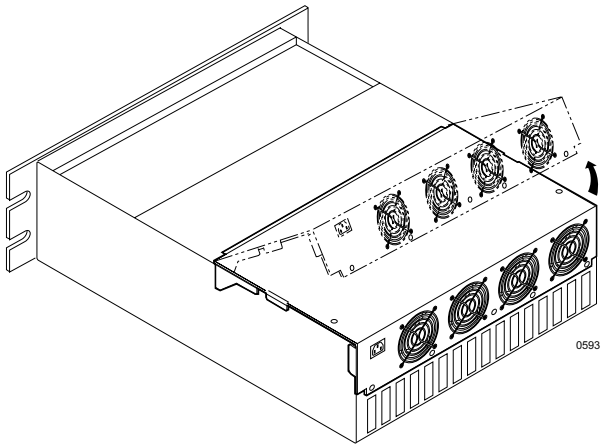

Figure B-10: Removing the Power Supply Module
6. Lift the rear of the power supply module and remove (Figure B-10).
7. Reverse the procedures described in items 1 through 6 and install the new power supply module.